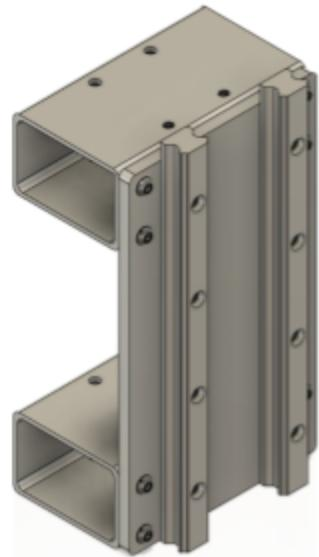

Figure 9.5
30. Mount HGR20 rail on the Z-Axis faceplate using M5x20mm bolts as shown in Figure 9.5.